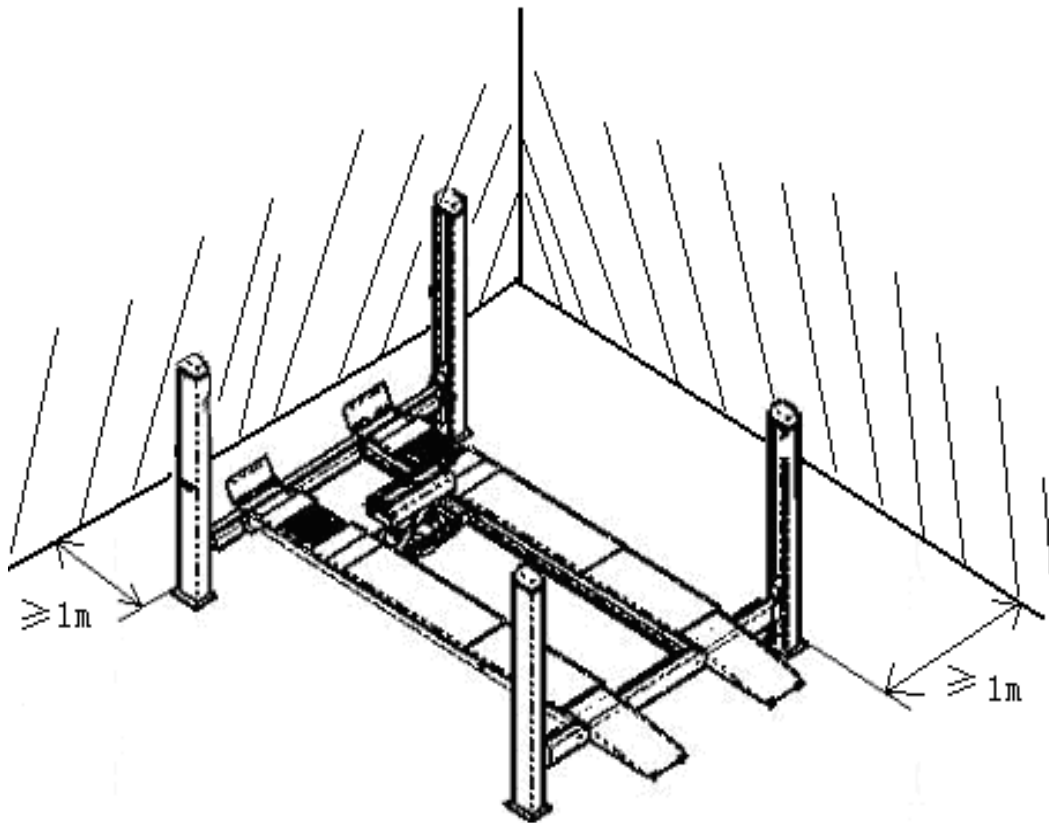

Fig.5
- Allow enough space around the lift for accessing the vehicle. (as in Fig. 5)